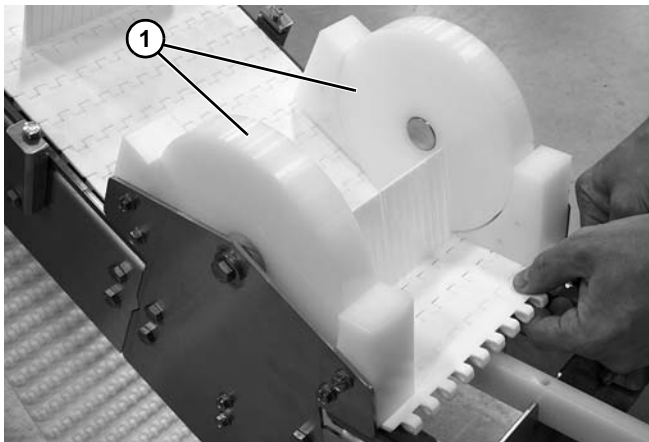

Figure 15
4. For Z-Frame conveyors, guide the belt under the hold down guides (**Figure 15, item 1**) in the lower knuckle.